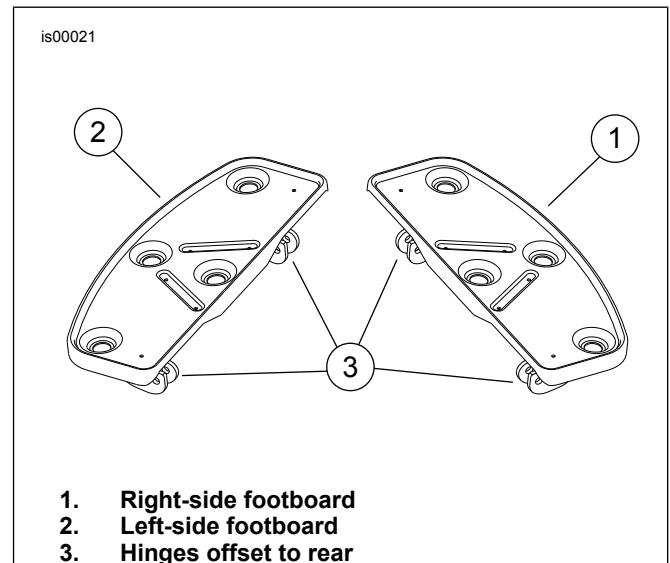

Figure 1. Ergonomic Operator Footboard
1. See Figure 1. Select the correct footboard from the kit. Place the footboard into position between the brackets, and install the pivot bolts from the outboard sides of the hinges.